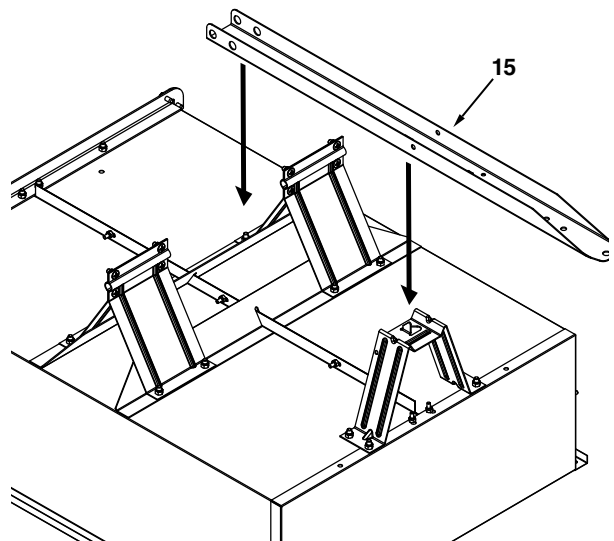

Figure 12
STEP 13 (SEE FIGURE 12): Position the cart bed upside down and place the draw bar tongue (15) as shown in figure 12.